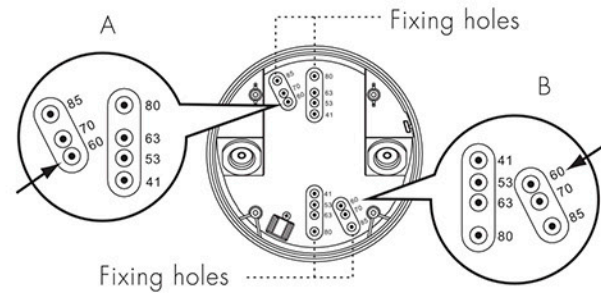

FIG. 9-A
- 3.3.1 There are 7 pairs of fixing holes with various distances from 41mm to 85mm on the bottom cover of the combined junction box which can be selected for different mounting applications (See FIG.9-A). Select two same figures on both ends for the corresponding fixing distance (See FIG.9-B).